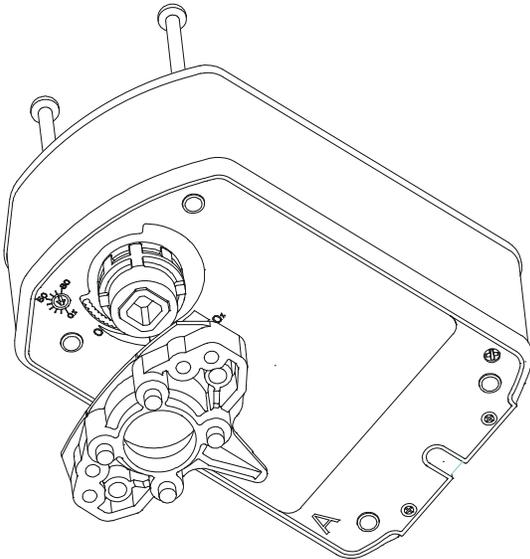

Figure 13: Installing the Linkage
5. Install linkage base on Side A using the two #10 14 x 2.75 in long screws (Figure 13). The recommended torque is 20 to 24 lb-in. (2.3 to 2.7 N-m).